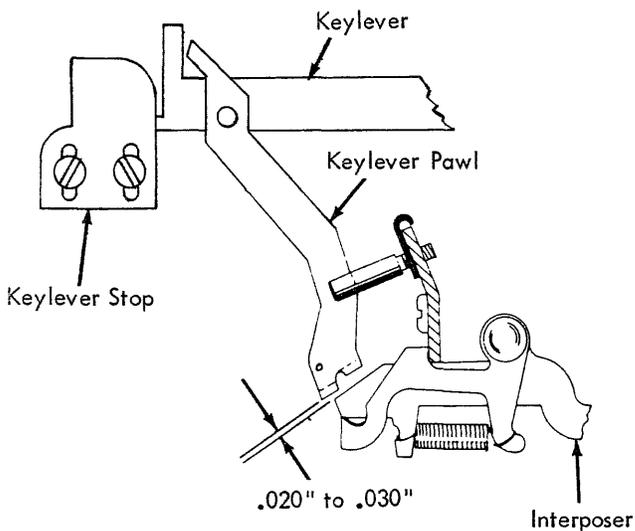

FIGURE 113. Keylever Pawl To Interposer Clearance
- b. Position the keylever stop so that all keylevers clear their interposer  $.020$ " to  $.030$ " (Fig. 113).